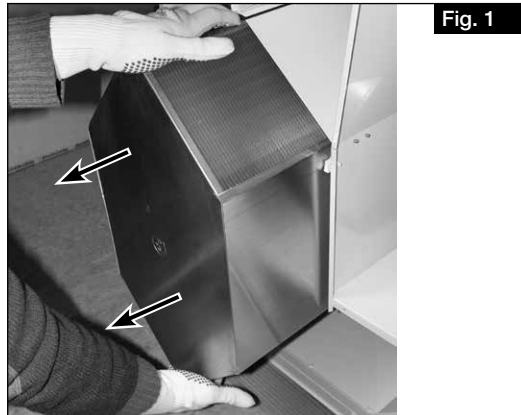

Fig. 1
3. Remove the heat exchanger from the unit for better accessibility (see Fig. 1).